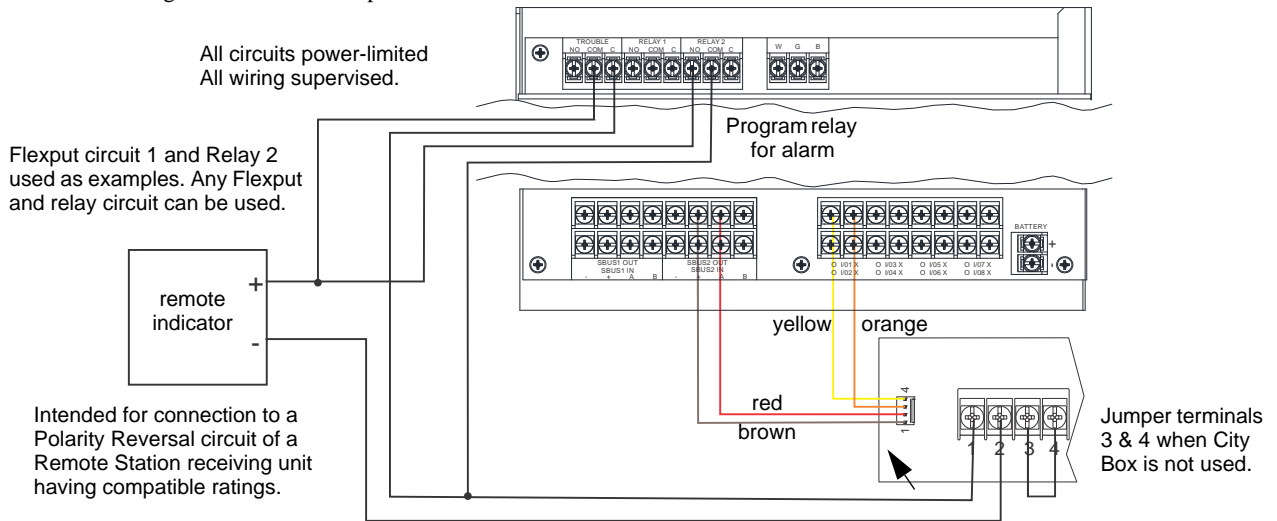

Figure 4.50 Polarity Reversal Connection Using the 5220 Module
2. Wire the 5220 to the control panel using the four-wire pigtail provided as shown in Figure 4.50. This diagram also shows how to connect the 5220 to the remote indicator. Do not install an EOL resistor in the terminals of the Flexput circuit used for this application.